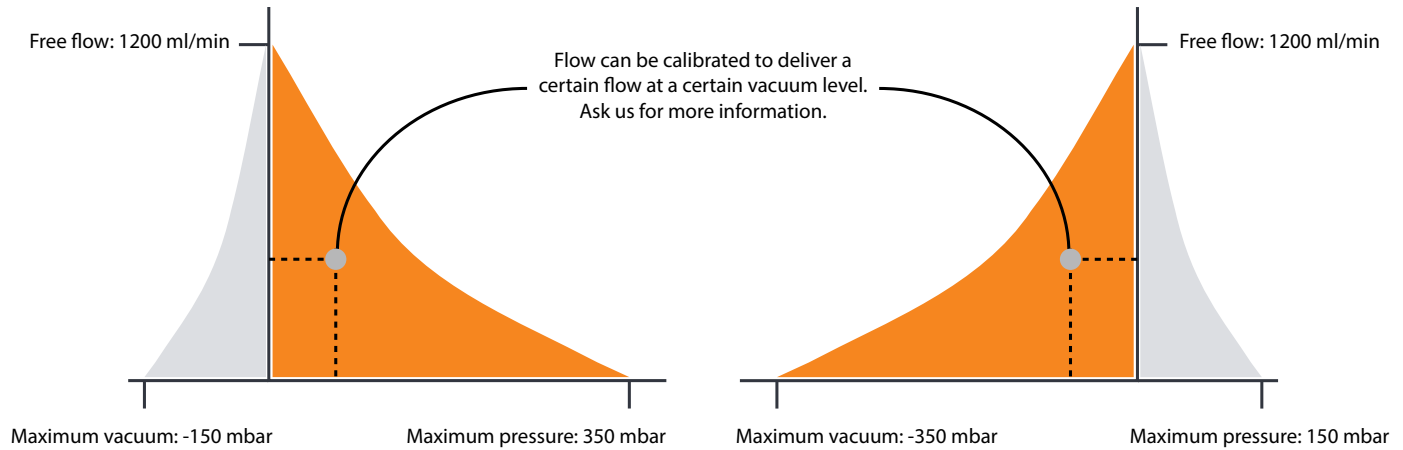

Figure 1: General flow performance for Xavitech P1500 (left) and V1500 (right) pumps
2) Switch power on and off: Note that the power has to be switched off on the supply connector (see Figure 1) and that the capacitor has to be placed between the pump and the switch. This is because of the current that the electro-magnet generates. The pump will be damaged if the switch is placed on the ground connector. The pump will in this case not consume any power, but the microcontroller will perform the start-up procedure which takes up to 3 s (depending on default pump frequency) when the power is turned on. During this time, the pump adjusts the stroke length to reach its calibrated length. The regulation adjusts the stroke length for every pump stroke thus it depends on the pump frequency.